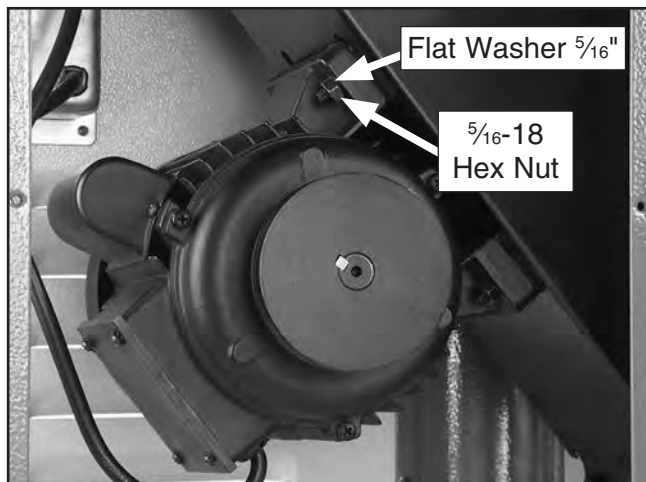

Figure 15. Motor mounted to dust chute.
9. Place the motor on the dust chute and align the mounting holes, making sure the pulley faces the V-belt slot (**Figure 15**).